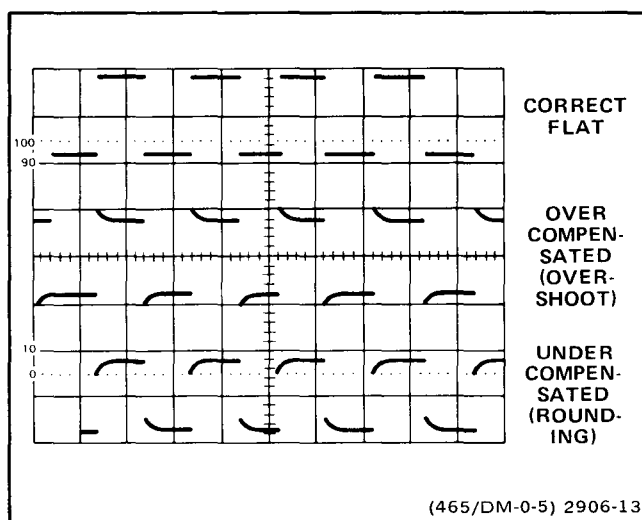

Figure 2-13. Probe compensation.
6. Check the waveform display for overshoot and rounding (see Figure 2-13); if necessary, use a small-bladed screwdriver to adjust the probe compensation for a square front corner on the waveform.
12. Check the waveform display for overshoot and rounding (see Figure 2-13); if necessary, use a small-bladed screwdriver to adjust the probe compensation for a square front corner on the waveform.